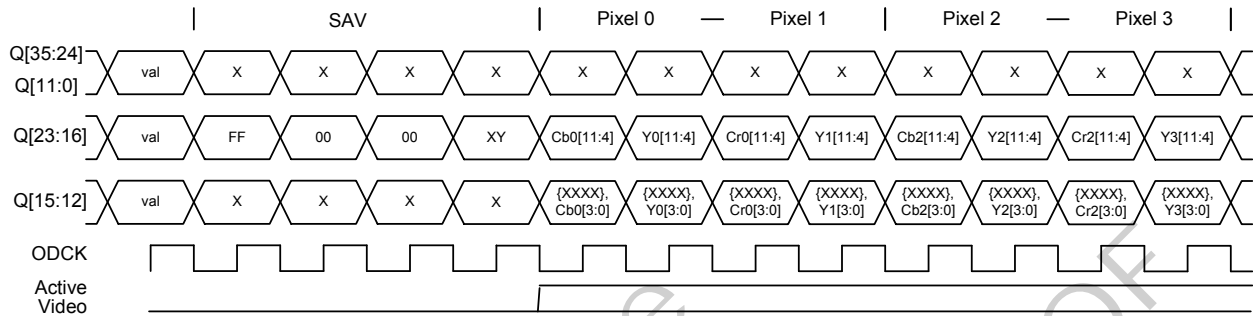

Figure 30. YC Mux 4:2:2 Embedded Sync Encoding Timing Diagram
This mode is similar to that on page 54, but with embedded syncs. It is similar to YC 4:2:2 with embedded syncs, but also multiplexes the luminance (Y) and chrominance (Cb and Cr) onto the same pins on alternating pixel clock cycles. Normally this mode is used only for 480i, 480p, 576i and 576p modes. Output clock rate is half the pixel clock rate on the link. SAV code is shown before rise of DE. EAV follows fall of DE. See ITU-R BT.656 Specification. 480p 54 MHz output can be achieved if the input differential clock is 54 MHz. Figure 30 shows OCLKDIV = 0 and OCKINV = 1.